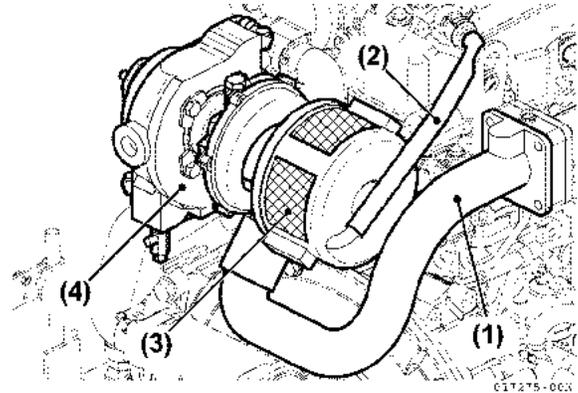
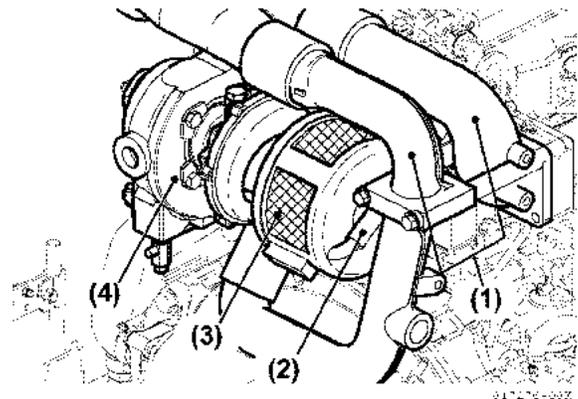

Figure 5-18
Figure 5-19
- (a) Remove the intake pipes (turbine, intercooler, intake manifold) (Figure 5-18) and (Figure 5-19).